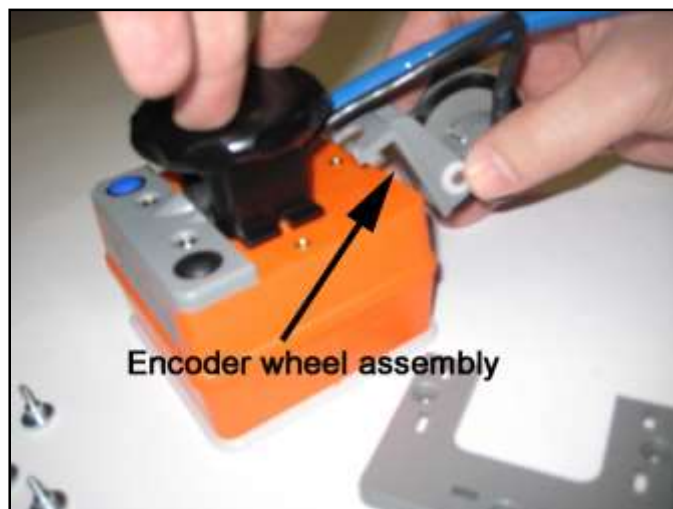

Figure 4: Reposition wheel assembly.
- 3 Swing the encoder wheel assembly to one side of the antenna (Figure 4). The side you choose has no effect on the data.